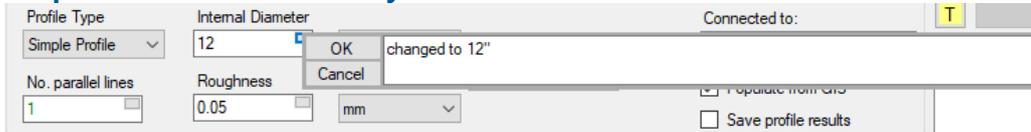

Figure 7: Notes entry for data entry fields.
- The small square in the number field can be used to store comments about the data entered, Figure 7. This option can be disabled by un-checking the “Display comments button on input” option under **Home -> General Settings -> GUI Settings**. The models history and notable changes can also be recorded under **Reports -> Revision History**.